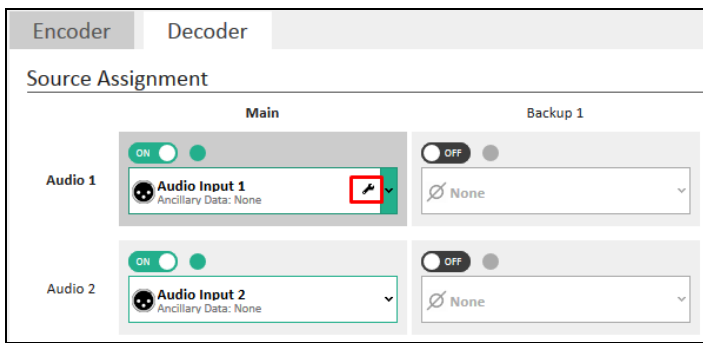

Figure 44: Edit Source Assignment
- ⇒ You can quickly edit the Main source or Backup Sources 1-3 directly for each decoder in the “Input Source Assignment” block by clicking the symbol in the corresponding source field (see Figure 44).
- ⇒ You can also change the “Source Assignment” directly in the dropdown menu for each decoder in the “Input Source Assignment” block by clicking the arrow in the corresponding source field (see Figure 44).